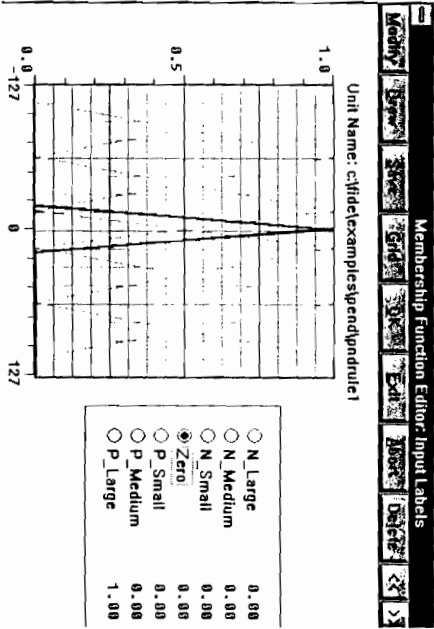

Figure 5-12 Membership Function Editor
13. Select different radio buttons on the right and notice how the corresponding membership function curve is highlighted. See Figure 5-12.